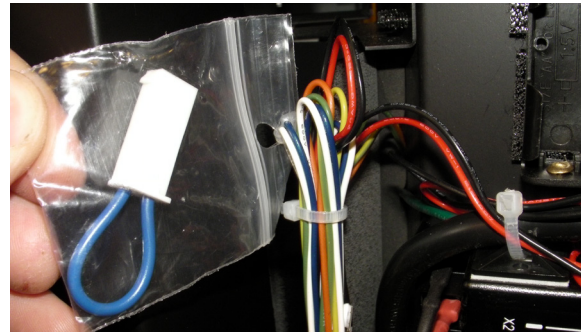

Figure 18.
2). Remove the bag containing the Jumper Cable from the wiring harness connected to the controller as shown in **Figure 18**.